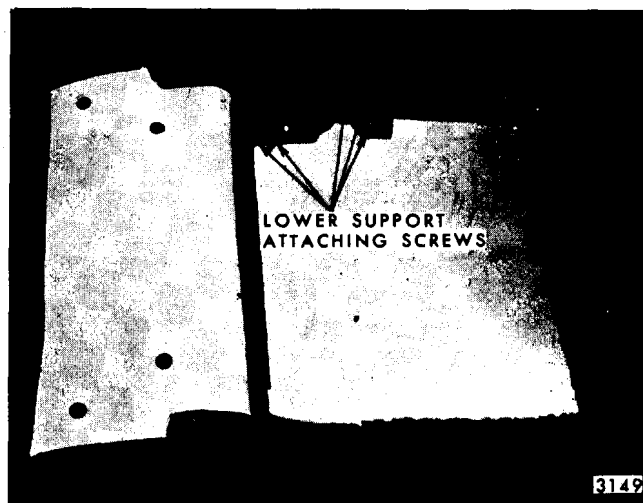

Fig. 14-58-Auxiliary Seat Lower Support - Cadillac Limousine Styles
2. Remove lower support assembly attaching screws, shown in Figure 14-58, and remove support assembly.